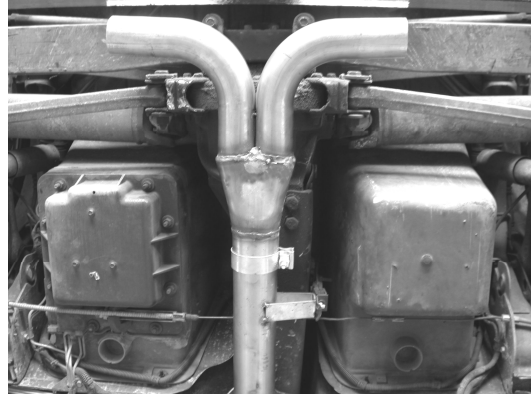

Figure 2
2. Place a clamp over the expanded end of the Y-pipe assembly and place into position sliding them over the front pipe/flange assembly as shown in figure 2. DO NOT tighten the clamps.